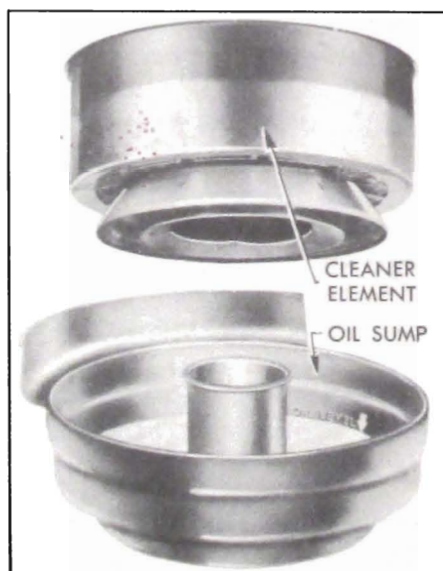

Figure 3-9—Air Cleaner Element and Sump, Showing Oil Level
4. Fill sump to oil level line with one pint of S.A.E. 50 engine oil. See figure 3-9. Do not oil the cleaner element because this oil will drain back into the sump and cause sump to be overfull.